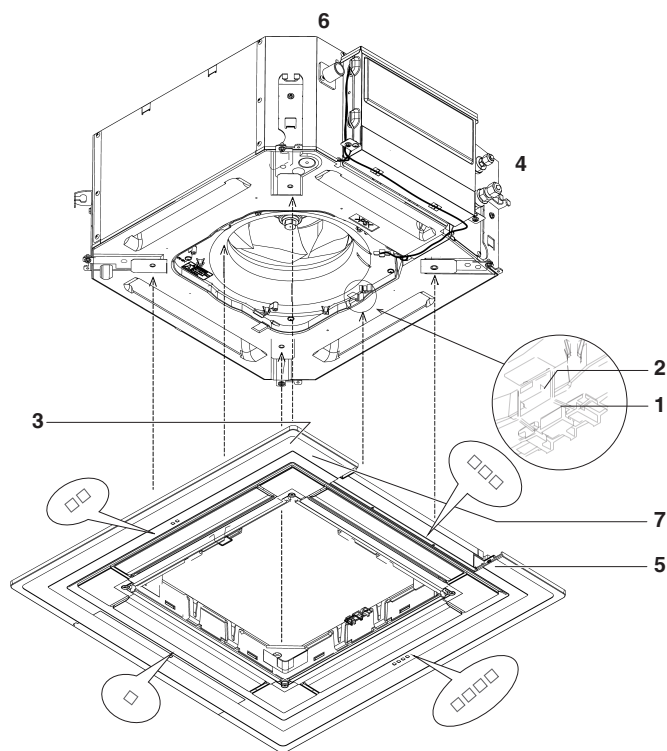

Fig. 3
(1) Install the decoration panel (See Fig. 3)